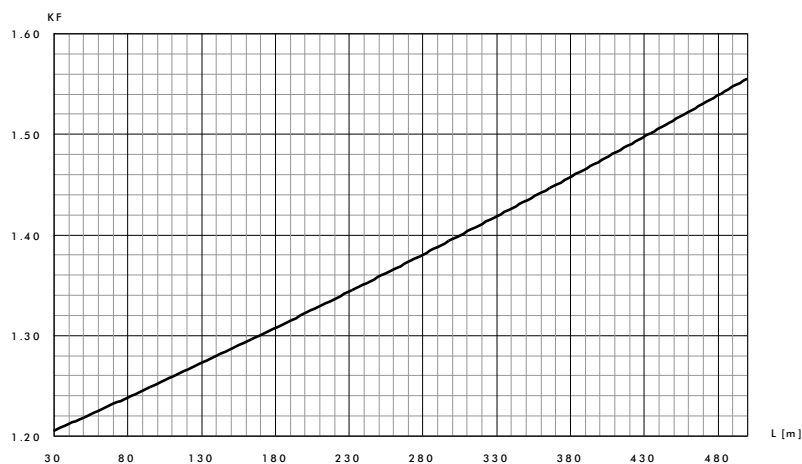

Figure 4: Determining the suction correction factor (KF)
4.	In order to compensate for the vacuum in the measuring cell and dust losses in the lines, a suction correction factor may have to be set on the control unit. This factor is based on experience and can be determined using Figure 4 or by measuring with a mobile In-situ instrument.